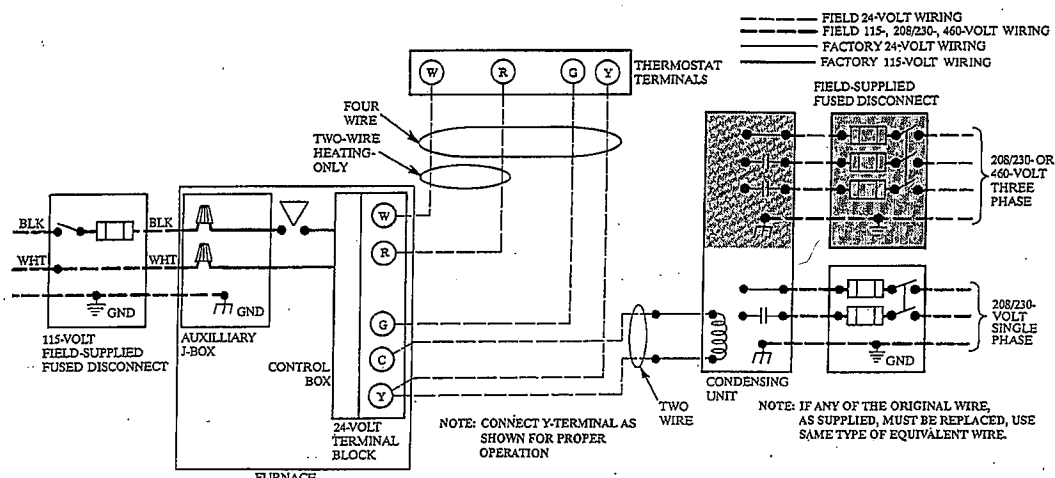
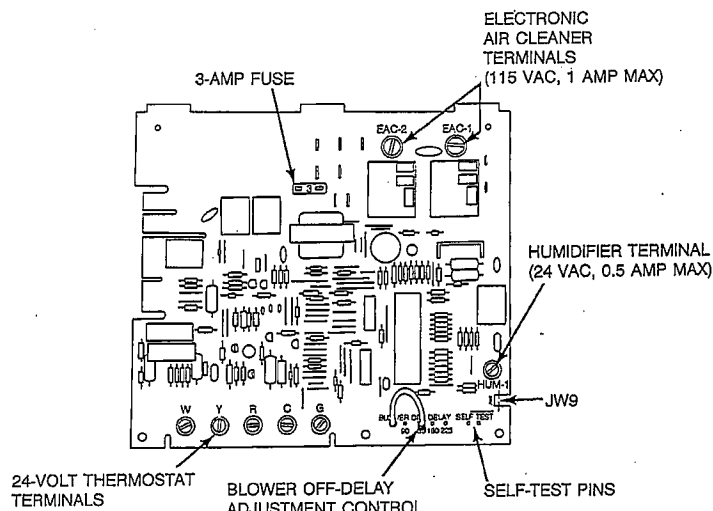

Fig. 8—Heating and Cooling Application Wiring Diagram
Fig. 9—Control Center
24-VOLT WIRING — Make field 24-volt connections at the 24-volt terminal strip. (See Fig. 9.) Connect terminal Y as shown in Fig. 8 for proper cooling operation. Use only AWG No. 18, color-coded copper thermostat wire.
1. Self-test—The furnace features a self-test system to help diagnose a system problem in the case of a component failure. Two test pins (ST-1 and ST-2) are located in the lower left-hand corner of the control board as shown in Fig. 9. To initiate the self-test procedure, momentarily short across the two pins (approximately 0.5 seconds).